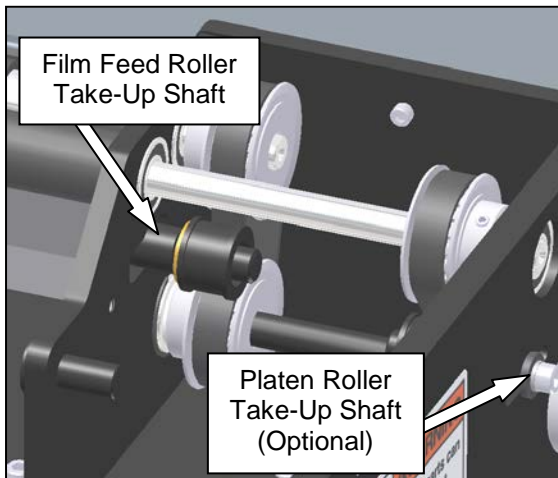

Figure 3-326. Film Feed Belt Take-Up Shaft
18. Reinstall the film feed take-up shaft and the platen roller take-up shaft (if equipped with a printer) (Figure 3-326).